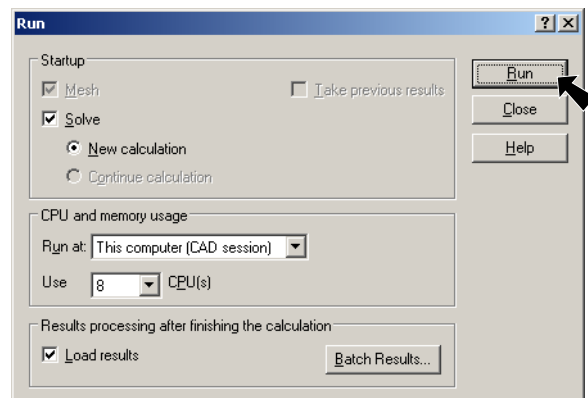

Fig. 16
Step 2. Click **Run** in the Run dialog box, **Fig. 16**.